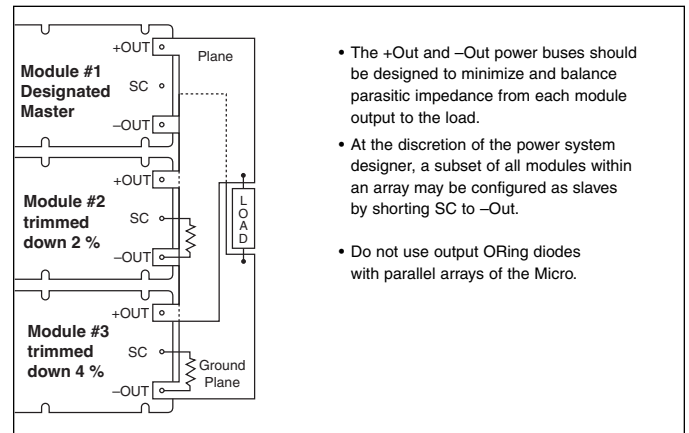

Figure 2–11 — Parallel module array output connections (Micro)
**Trim Down.** The converter is **not** a constant power device; it has a constant current limit. Hence, available output power is reduced by the same percentage that output voltage is trimmed down. Do not exceed maximum rated output current. The trim down resistor must be connected to the –S pin (–Out pin on a Micro). (Figures 2–12a and 2–12b)
**Trim Up.** The converter is rated for a maximum delivered power. To ensure that maximum rated power is not exceeded, reduce maximum output current requirement in the application by the same percentage increase in output voltage. The trim up resistor must be connected to the +S pin (+OUT pin on a Micro.) Do not trim the converter above maximum trim range (+10%) or the output over voltage protection circuitry may be activated. (Figures 2–13a and 2–13b)